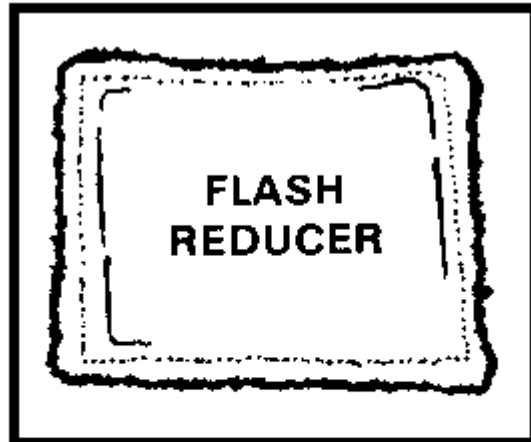

Figure 26. M2 flash reducer.
(4) Propelling charge M4A1. Propelling charge M4A1 is identical to the M4A2, except that it does not contain a flash reducer and the base igniter contains black powder. The M2 flash reducer (Figure 26) may be used with this charge and is a separate item of issue.
e. Flash reducer M2. The M2 flash reducer consists of a 4-inch square, red cotton cloth bag containing black powder and potassium nitrate (Figure 26). The M2 flash reducer which is a separate item of issue may be used with charges M4, M4A1, or M4A2 if additional flash reduction is desired. In preparing a white bag M4 and M4A1 propelling charge for firing, one flash reducer is added at the forward end of the base charge and at the forward end of each increment used. The flash reducer pads serve to limit muzzle flash and blast overpressure.